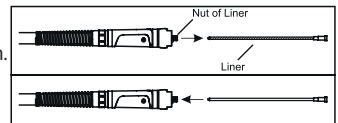

Figure 5: Removing the Liner and Installing the New Liner
- Unscrew the liner's nut which is on torch connector side and remove the liner existing in torch. After inserting the new liner into the torch, screw its nut tightly (Figure 5).